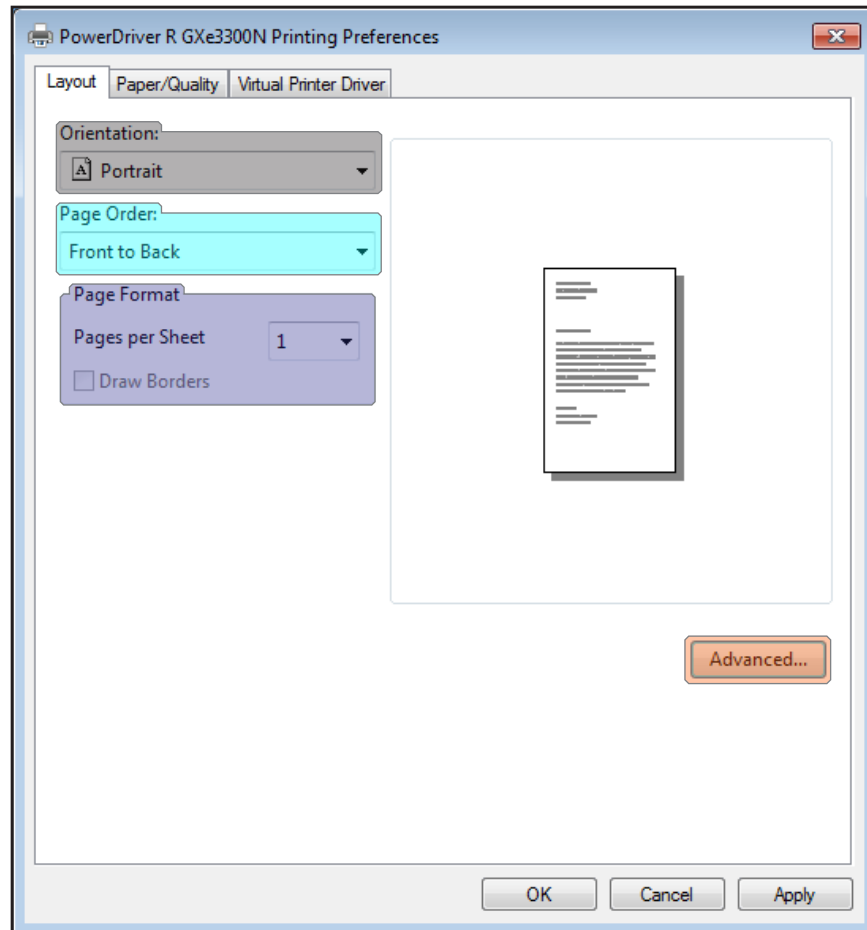

FIGURE 4
- Head Cleaning** – Click here to initiate the head cleaning process. This feature is necessary when nozzles are missing thus causing colour shift or “banding” in your printed images. You should print a nozzle check to confirm missing nozzles before performing a head cleaning. Repeat the Head Cleaning until a complete nozzle check has been achieved. Cartridge users should only perform two (2) head cleanings, while users of bulk ink systems can try up to five (5). Contact technical support if you fail to achieve a good / complete nozzle check after the recommended amount of cleanings.
- 4.) At the top of the PowerDriver-R GXe3300N Printing Preference window, click the **Layout** tab. Here you will find four different **SECTIONS** to utilize: (see *FIGURE 4*).